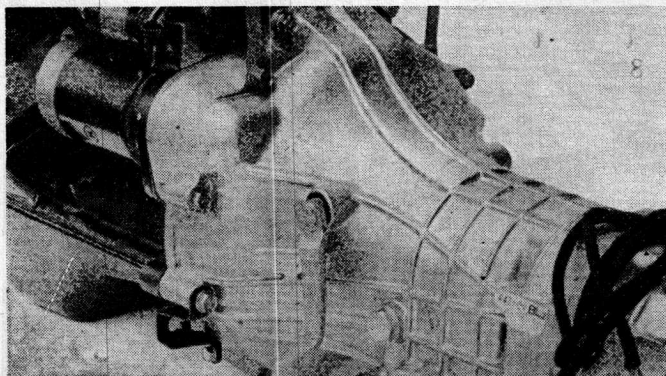

Fig. 11 Removing the Transmission
- (1) Drain the engine oil.
- (2) Remove the starting motor.
- (3) Remove the bell housing cover.
- (4) Remove the transmission by loosening bolts. (Fig. 11)